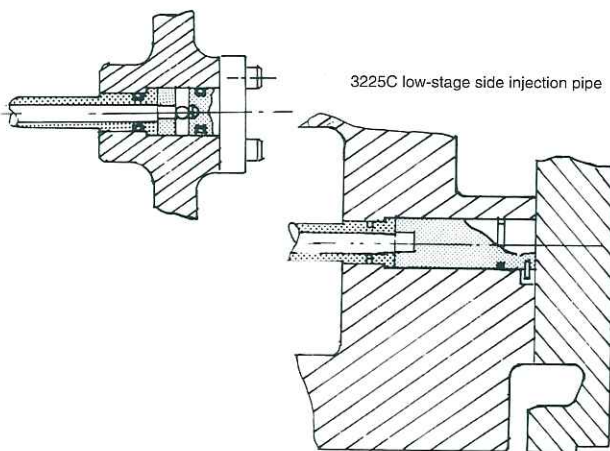

Fig. 62 Oil Injection Section, Sectional View
- 4) A low-stage side oil injection pipe is fitted at the bottom but the arrangement and assembly method of the pipe differ according to the model (Fig. 62).